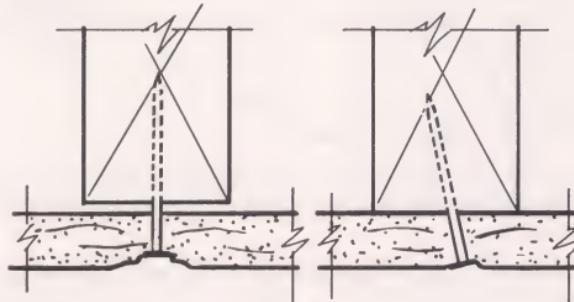

Fig. 7
**Cause:** Poorly formed nailheads, careless nailing, excessively dry face paper or soft core. Nailheads which puncture paper and shatter core of panel (Fig. 7) have very little grip on board.